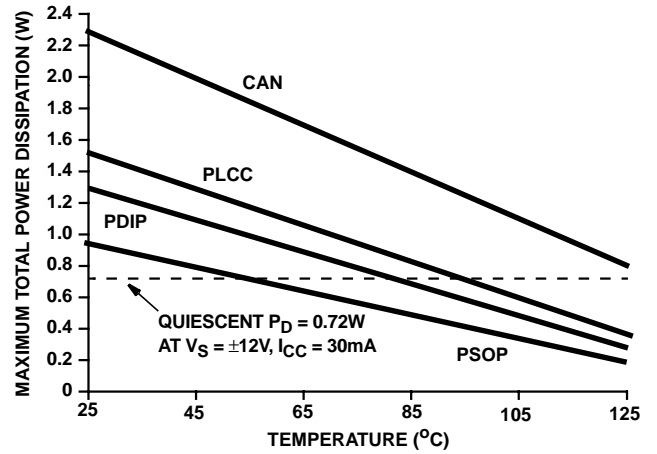

FIGURE 5. MAXIMUM POWER DISSIPATION vs TEMPERATURE
1. Maximum power dissipation, including load conditions, must be designed to maintain the maximum junction temperature below 175°C for the metal can package, and below 150°C for the plastic packages (See Figure 5).
3. Maximum operating temperature in the PSOP package is limited to 60°C, for $V_{SUPPLY} = \pm 12V$ to prevent the junction temperature from exceeding 150°C. The maximum operating temperature may have to be derated further, depending on the output load condition. The operating temperature may be increased if the HA9P5033 is operated at lower V_{SUPPLY} . For example, the quiescent operating temperature may be increased to 75°C by operating at $V_{SUPPLY} \leq \pm 9.7V$. See Figure 5 for more information.
Figure 5 is based on: